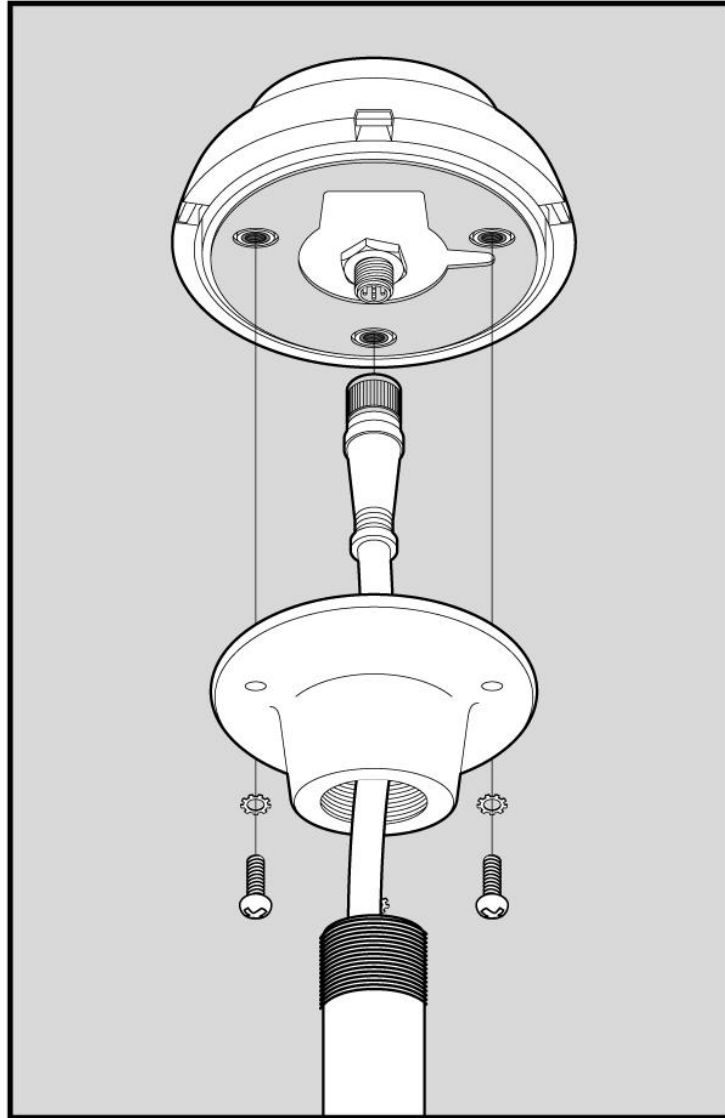

Figure 2 – Mounting the GPS200 to a Standard Marine Pole Mount
Screw the included GPS200 antenna mount base to the standard marine mount. Thread the NMEA 2000[®] cable through the standard marine mount and the antenna mount base from the bottom out through the top and connect it to the GPS200 unit (see Section 2.4 below). Finally, attach the GPS200 to the antenna mount base using the included brass mounting screws and lock washers as shown in Figure 2. Do not use threadlocking compounds containing methacrylate ester, such as Loctite Red (271), as they will cause stress cracking of the plastic enclosure.